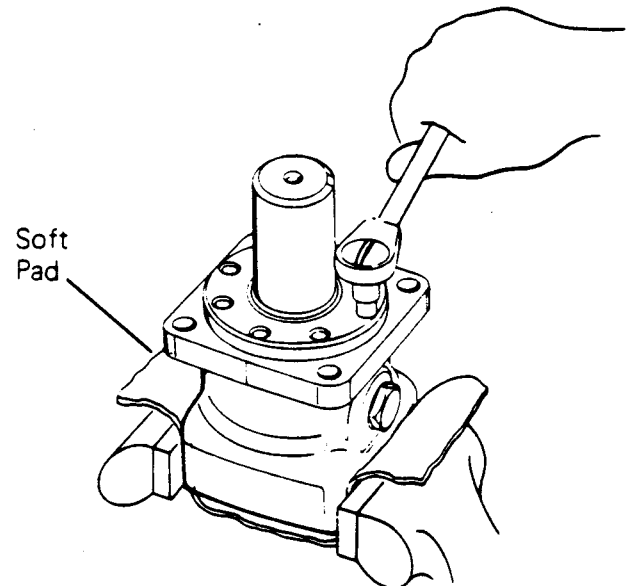

Figure 7
- 20 Place bearing housing in vise, as shown in Figure 7. Loosen 8 cap screws (5/16") in retainer.
8 Lubricate threads of 8 cap screws with a light film of oil. Install and finger tighten screws. Place unit in a vise, as shown in Figure 7. Tighten cap screws to 290 pound-inch of torque--in the sequence shown in Figure 13.